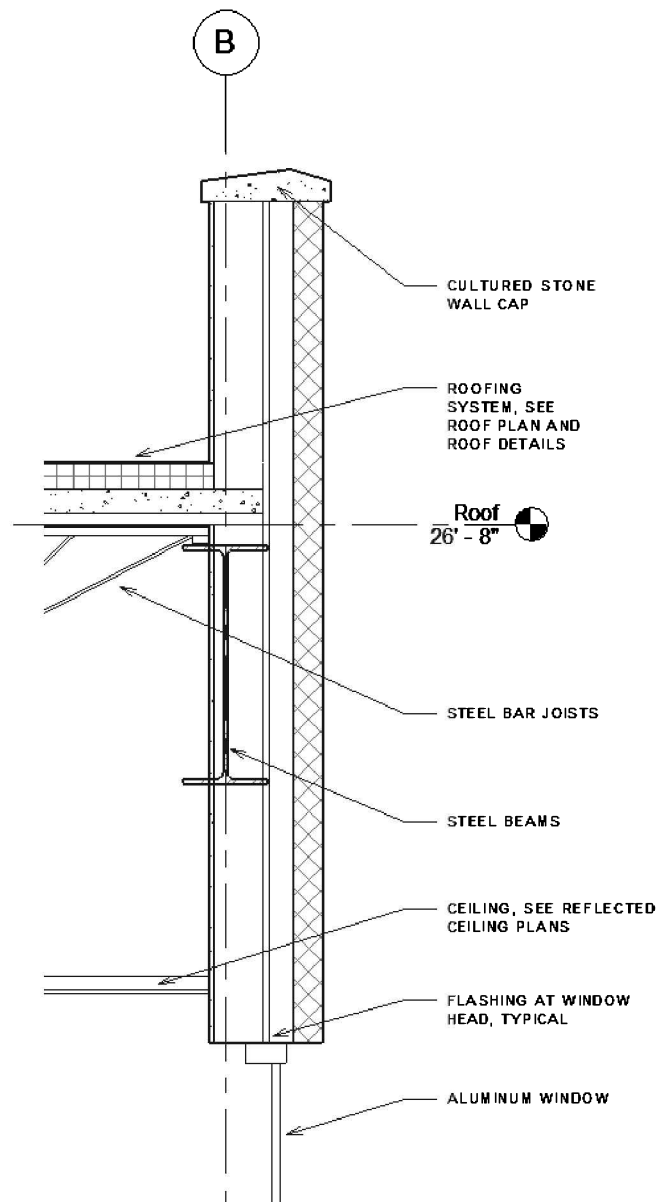

FIGURE 10-4.7 Notes added to wall section
17. Add the notes with leaders shown in **Figure 10-4.7**.
18. Select the text and use the grips and the justification buttons to make the text look like **Figure 10-4.7**.